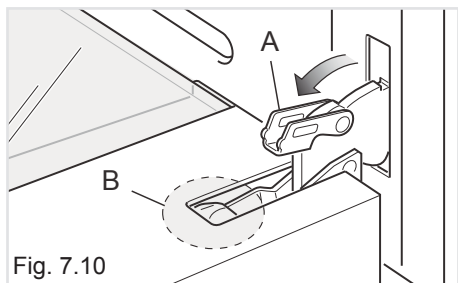

Fig. 7.10
- Fully open the lever "A" on the left and right hinges. (fig. 7.10).
- Gently close the door until left and right hinge levers "A" are hooked to part "B" of the door (figs. 7.10, 7.11).